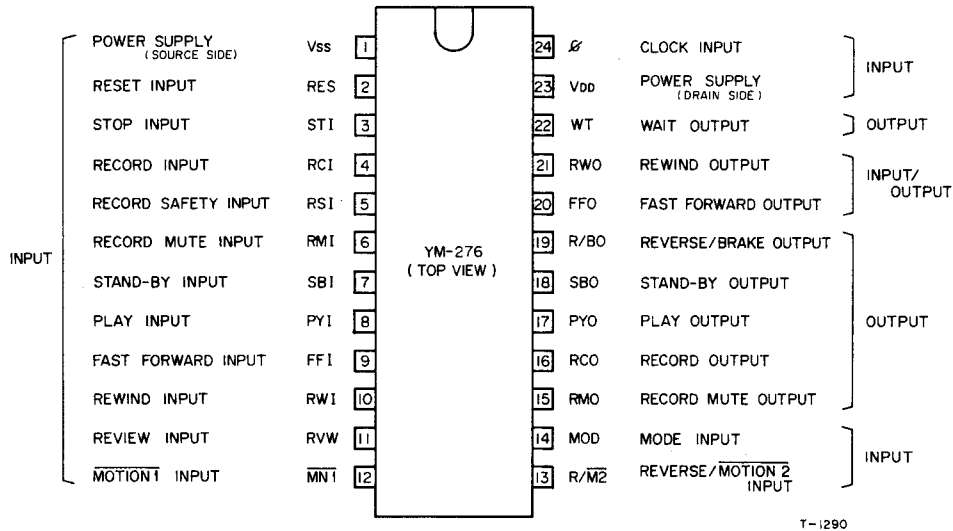

Fig. 2 LSI Input/Output Terminals
Refer to Fig. 2.
Conditions for generating output signal are described in (1). Conditions for setting and resetting the operational memory in the SYS-CON are described in (2). Resetting has priority over all other operations in the SYS-CON. Therefore, even if a set condition exists, the corresponding memory will not be set if a reset conditions exists. Signs used in (1) and (2) are as follows, except for those indicated in Fig. 2.